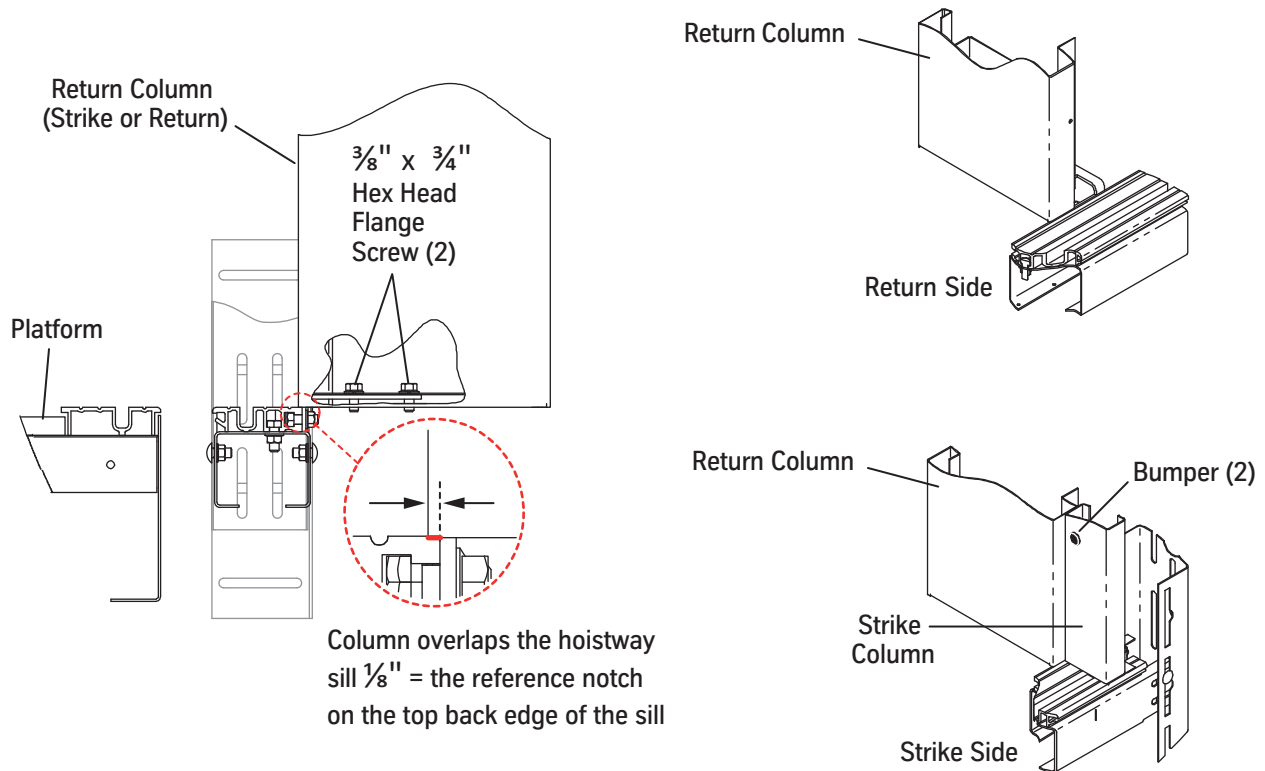

Figure 55 - Attach the Frame (standard sill shown)
2. Align the frame columns so that they overlap the hoistway sill $\frac{1}{8}$ " (the depth of the cutout on the top back edge of the hoistway sill). See Figure 55.